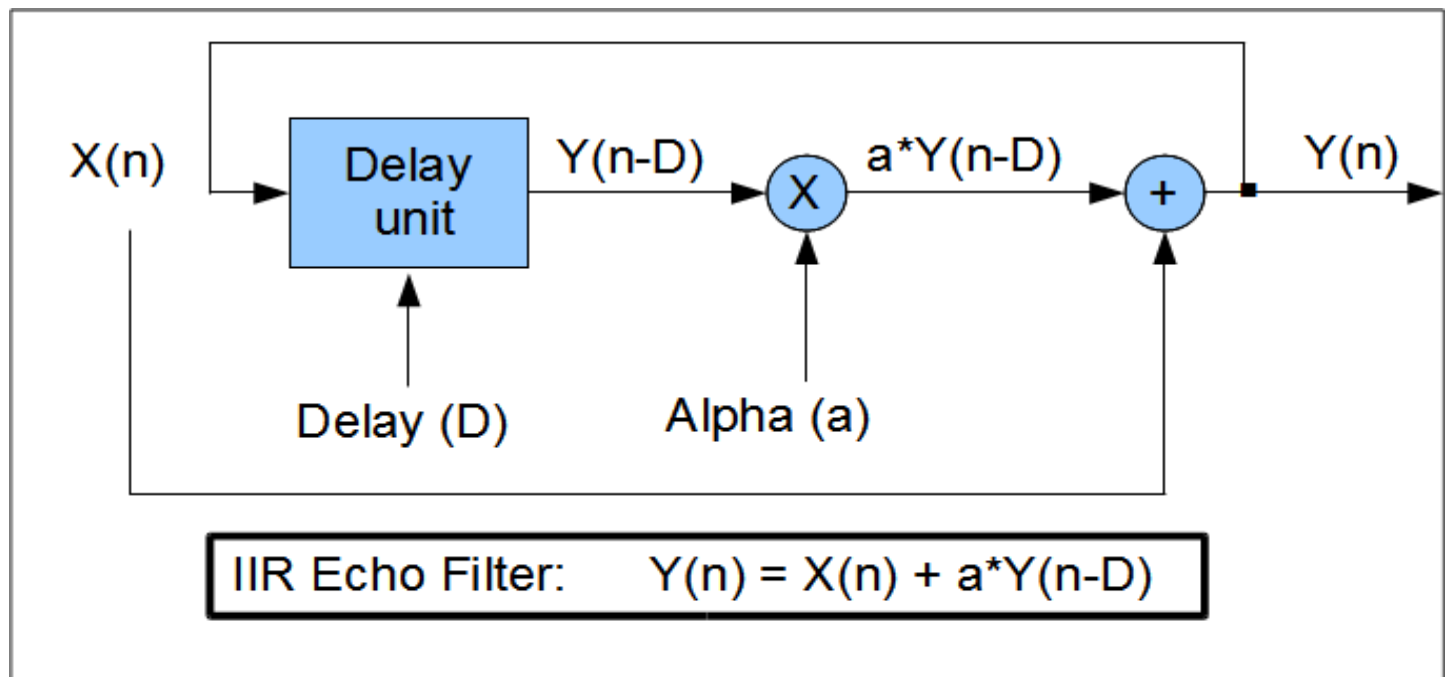

Figure 1: IIR Echo Filter block diagram
Figure 1 shows a block diagram of an IIR Echo Filter consisting of a memory (Delay Unit), a multiplier, adder and feedback path.
2. Redraw Figure 1 as follows. Delete the feedback connection from $Y(n)$ to the delay unit. Now connect $X(n)$ to the input of the delay unit as well as the adder. Replace the $Y(n-D)$ text with $X(n-D)$. Write down the difference equation. What type of filter is this?
3. Now redraw Figure 1 as follows: Place a 2-position switch at the input of the delay unit so the centre connection goes to the delay unit. Now connect the other two lines, one of which is a connection to $Y(n)$, and the other joins to $X(n)$ as well as $X(n)$'s connection to the adder. Place the text $Z(n)$ at the input to the delay unit, and replace the $Y(n-D)$ text with $Z(n-D)$. Write down the difference equation. You will use this setup in Part 3.